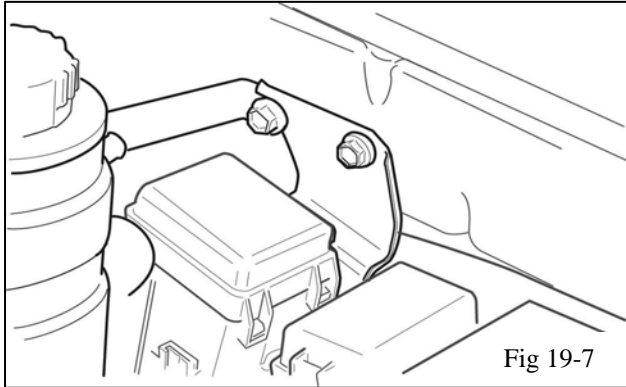

Fig 19-7
- (h) Attach the reservoir bracket brace (A3) to the threaded hole using the M8x20 bolt (A6) (Fig 19-4). **Torque: 8 Nm (71 in lbf)** The other end of the brace will attach to the upper driver's side hole in the reservoir bracket when the reservoir is mounted (Fig 19-7).
- (i) Remount the bracket as shown (Fig 19-7).